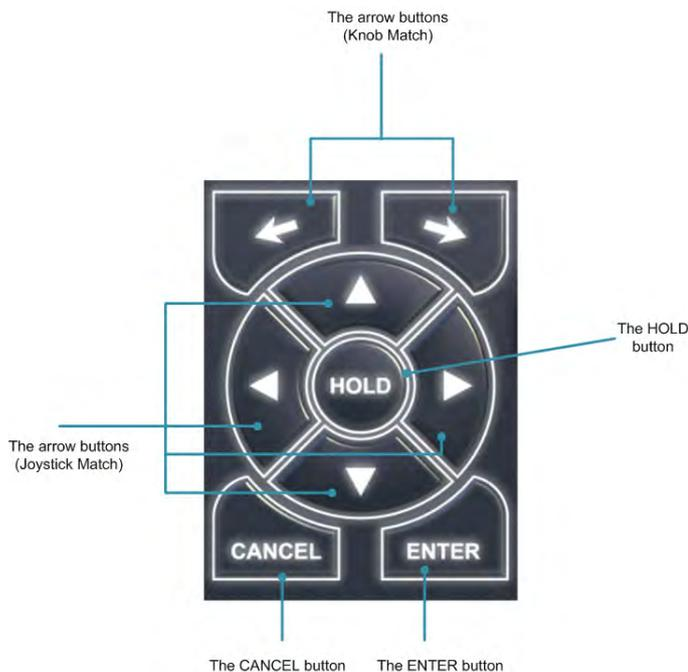

Figure 2.21: The Group of Controls
The arrow buttons (see Figure 2.21) are meant for:
- with the Joystick match pushbuttons (see Figure 2.21): press and hold the pushbutton or press the pushbutton several times until the required value is set. Then press the Enter pushbutton. Keep in mind that the direction of the pusbutton arrows is the same as in the Offset settings dialog i.e. the arrow pushbutton performance depends on the control panel orientation.